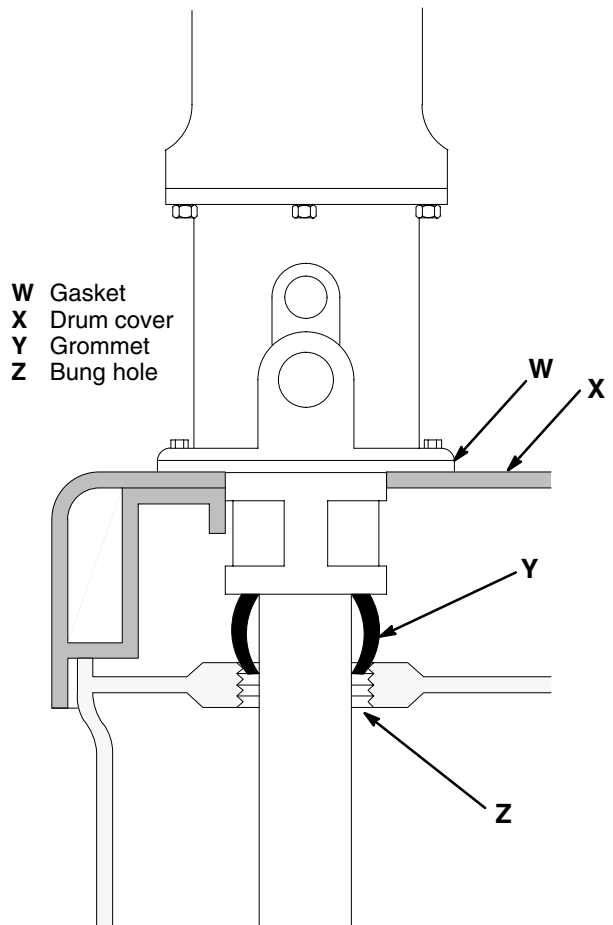

Fig. 6
1. Insert the pump riser tube through the gasket (W) and drum cover (X). Fasten the Fire-Ball pump from the top side and the Fireball pump from the bottom side. See Fig. 6.
2. Slide the rubber grommet (Y), tapered end down, onto the riser tube and push it up against the pump base. See Fig. 6.
3. Guide the pump riser tube through the drum bung hole (Z) and place the cover on the drum. See Fig. 6.